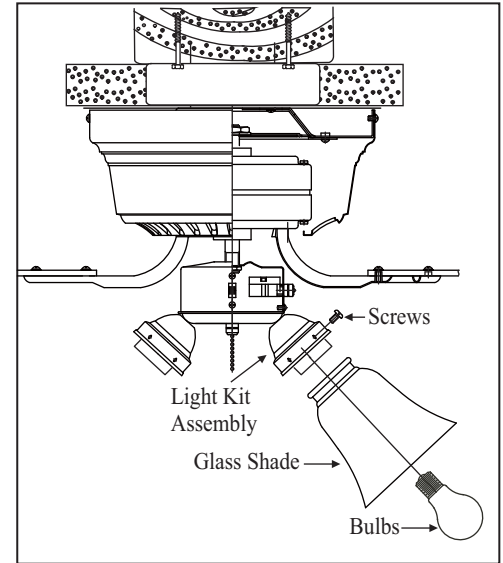

Figure 13
3. Install 3 x 60W (or CFL equivalent) Medium base bulbs (not included). (Fig. 13)
4. Mount the glass shades to the light fixture by unscrewing partway the thumbscrews on the glass holders, insert the glass, then gently tighten the thumbscrews by hand evenly to the glass. Do not over tighten. (Fig. 13)